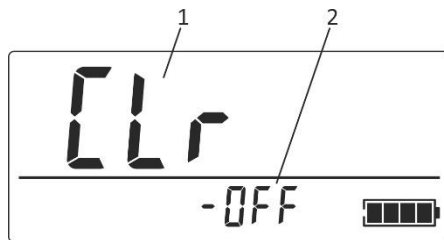

Figure 2.29 – LCD of the dosimeter
2.3.6.8.4.1 Press UNITS/CLEAR and hold it down (circa 4 s) until “CLr” symbols (1) appear on the LCD to proceed to the submode of DE, DE accumulation time and DE accumulation history values clearing (Figure 2.29). Then release UNITS/CLEAR.